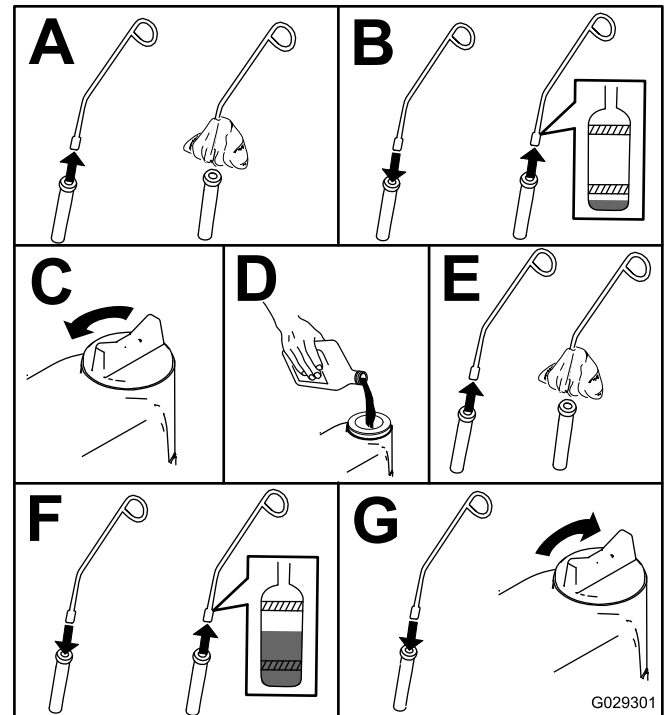

Figure 60
5. Check the engine-oil level as shown in Figure 60.